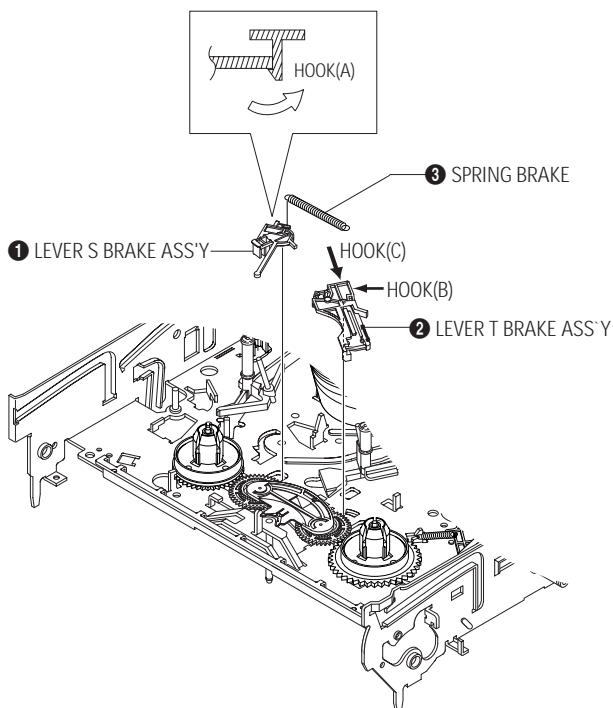

Fig. 4-25 Lever Brake S, T Ass'y Removal
- 1) Remove the Lever Brake S Ass'y (Refer to Fig 4-25).
- 2) Remove the Spring Tension Lever ❶.
- 4) Lift the Lever Tension Ass'y ❷ & Band brake Ass'y ❸.
- 1) Release the Hook [A] and the Hook [B], [C] in the direction of arrow as shown in Fig 4-25.
- 2) Lift the Lever S, T Brake Ass'y ❶, ❷ with spring brake ❸.